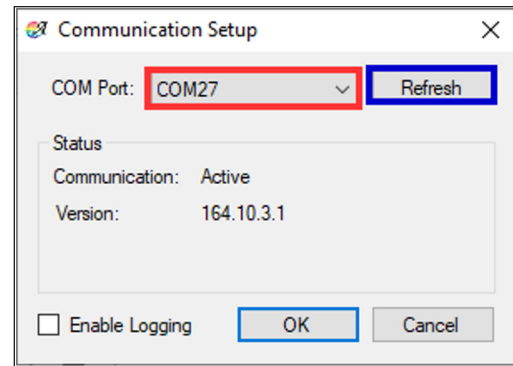

Figure 10: Communication Setup dialog box
To connect the ASEK-20, click “Setup” → “Communication Setup”. The dialog box in Figure 10 will appear. Click the correct COM# in the pulldown menu next to COM Port. If the COM port is unknown, do the following:
2. Click “Refresh” in the “Communication Setup” dialog window as highlighted in blue in Figure 10.